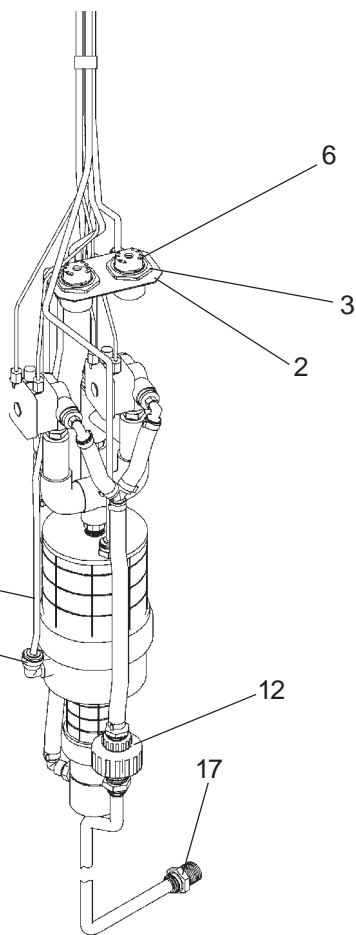

FIG. 4
- Remove the cleanout plug from the PVC column. Remove the valve assembly from the PVC column by carefully pulling up on the strap and connecting tubing at the same time. Pressure test the valve assembly for leaks. Check stream height from the bubbler. Stream height is factory set at 35 PSI. If supply pressure varies greatly from this, adjust the screw on the regulator (Item 13, Page 10, Fig. 4). Clockwise adjustment will raise stream and counter-clockwise adjustment will lower stream. For best adjustment stream height should be approx. 1-1/2" (38mm) above the bubbler guard. Replace the valve into the PVC column. Make sure the supply hose coils into the bottom of the PVC column without any kinks and double check that the valve is positioned fully at the bottom of the PVC column. Cap the PVC column.